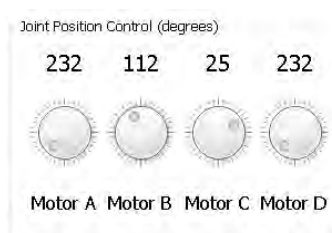

Figure 2.18: Joint Position Control section
**Joint Position Control Section** The “Joint Position Control” section, shown in Figure 2.18, displays and controls the positions of each of motors of a robot. The motor positions are displayed in the numerical text browser located above each dial panel. The displayed motor positions are in units of degrees. The dial panels also display the positions of motors. Users can also drag the dial panels and the motor will move to the dropped position. The motor angles are updated automatically when motors are controlled either from the control panel or a Ch program. However, in Mac OS X, this section is not updated when a Ch program is running due to the communication performance issue.